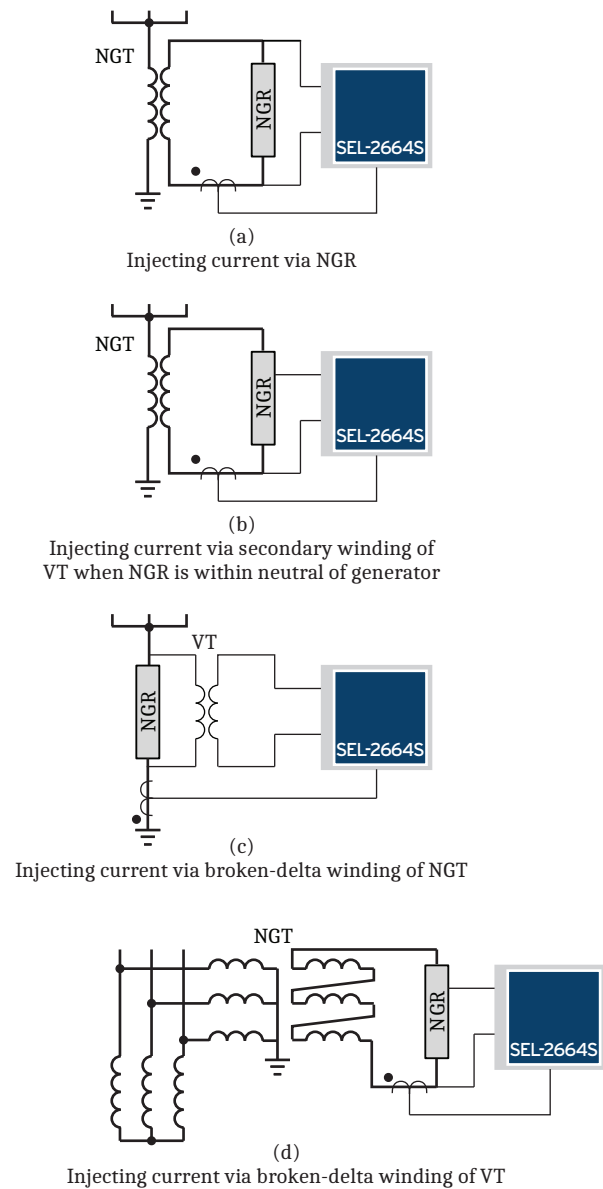

Figure 11 Application Examples of Using SEL-2664S for 100 Percent Stator Ground Fault Protection
- Injecting current via the neutral generator resistor (NGR) when the NGR is located on the secondary side of the neutral grounding transformer (NGT), as shown in *Figure 11(a)*.
- Injecting current via the tap of the NGR with the NGR located on the secondary side of the NGT, as shown in *Figure 11(b)*.
- Injecting current via the secondary winding of a voltage transformer (VT) when the NGR is the primary of the generator neutral, as shown in *Figure 11(c)*.
- Injecting current via the tap of the NGR with the NGR located across the broken delta winding of the NGT this is typically the case when the neutral point of the generator is not earthed, as shown in *Figure 11(d)*.